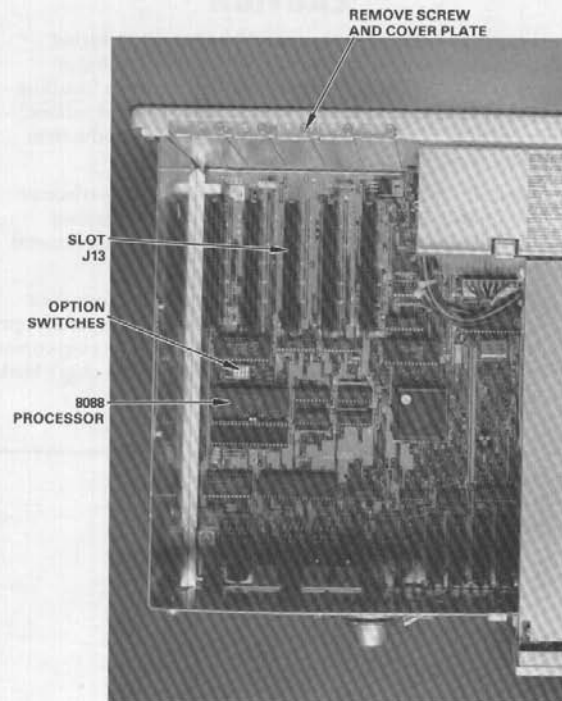

Figure 6. Tandy 1000SX Expansion Slots
4. There are five expansion slots in the Tandy 1000SX. See Figure 6. You can install the 286 Express Card in any slot, but we suggest using the middle slot, the one labeled J13. Remove the screw and cover plate for this slot and set them aside.
5. Jot down the present setting for each of the motherboard's option switches. See Figure 6. This precaution is necessary in case you accidentally change one of the switches while installing the 286 Express Card.